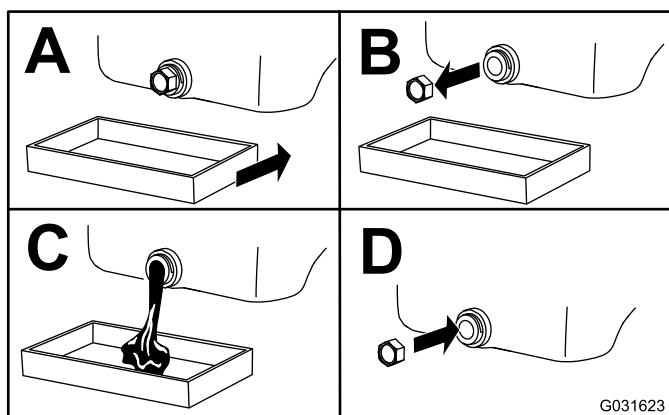

Figure 29
3. Change the oil (Figure 29).